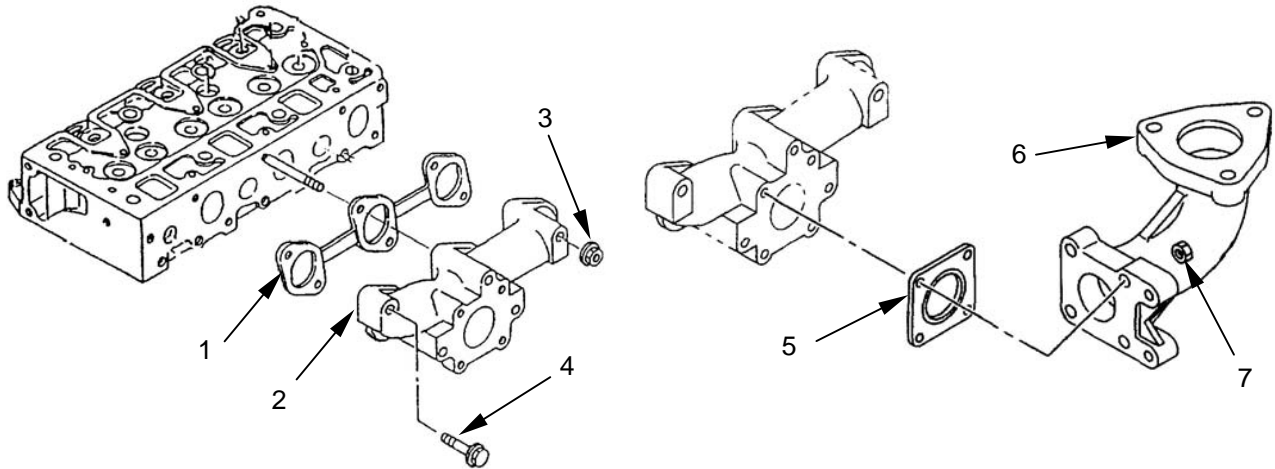

Figure 19. Exhaust manifold and elbow
- b. Install gasket (**figure 19, item 1**) and exhaust manifold (**figure 19, item 2**) on engine.
- c. Fasten exhaust manifold with mounting nuts (**figure 19, item 3**) (qty 4).
- d. Fasten exhaust manifold with mounting bolts (**figure 19, item 4**) (qty 2).
- g. Install elbow gasket (**figure 19, item 5**) and elbow (**figure 19, item 6**) on exhaust manifold.
- h. Fasten elbow in place with mounting nuts (**figure 19, item 7**).